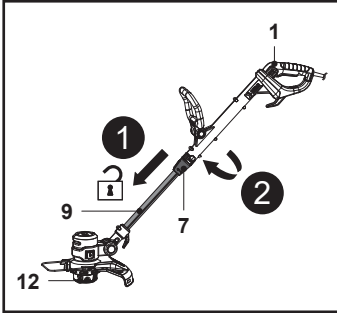

Fig. 8 (initial position 0°)
1. Slide the unlock button (7) downward and turn the main handle (1) clockwise while holding lower pole (9) to adjust the trimmer head (12) to an angle of 90° or 180° (Fig. 8). Release the unlock button (7) and keep turning the main handle (1) until it locks in place. Ensure the unlock button (7) snaps into place.